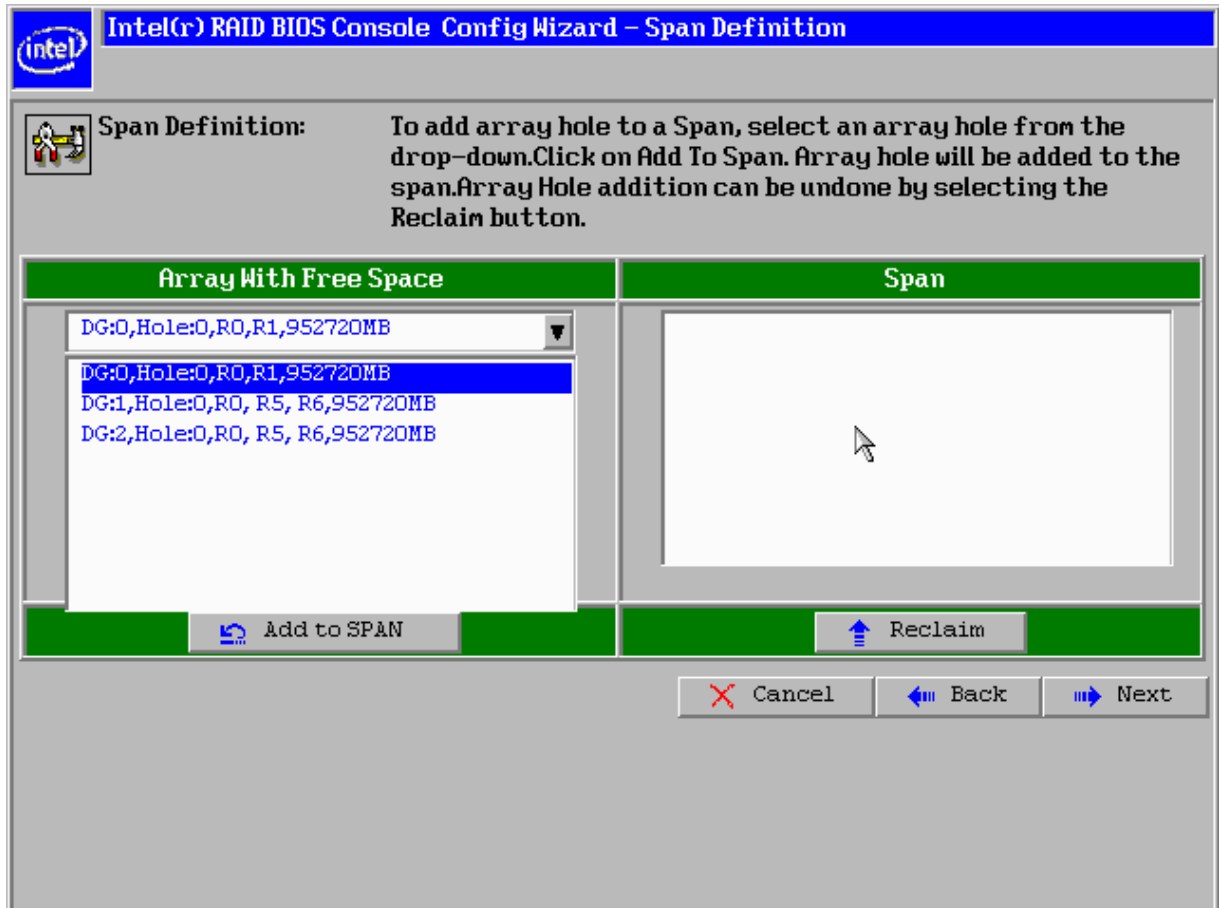

Figure 20. Span Definition Screen – Adding an Array Hole
15. On the Span Definition screen (see Figure 20), select **DG:0,Hole:0,R0,R1,952720MB**, and click **Add to SPAN**.